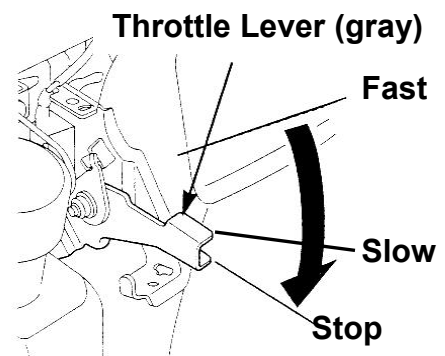

Figure 18
2. Move the throttle lever (gray) up from the Stop position to about 1/3 of the way toward the Fast position (*Figure 18*).
6. For best engine performance, it is recommended the engine be operated with the throttle in the Fast position (*Figure 18*).